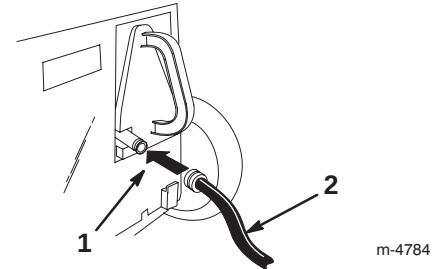

Figure 19
3. Lift the rear door and attach the coupling to the lawn mower washout fitting on the recycling plug (Fig. 19).